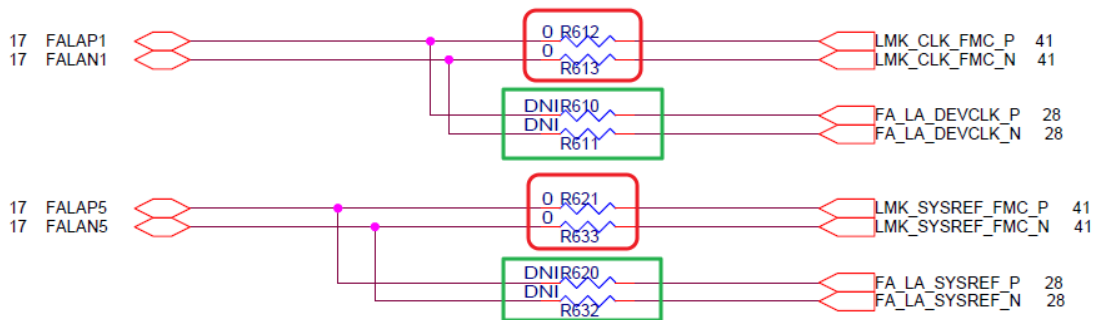

Figure 4-5 The resistors need to be reworked
- Remove the resistors on the R612 and R613 positions in the red box, then install 0 Ohm resistors on the R610 and R611 positions in the green box, as shown in **Figure 4-5**.
- Remove the resistors on the R621 and R633 positions in the red box, then install 0 Ohm resistors on the R620 and R632 positions in the green box, as shown in **Figure 4-5**.